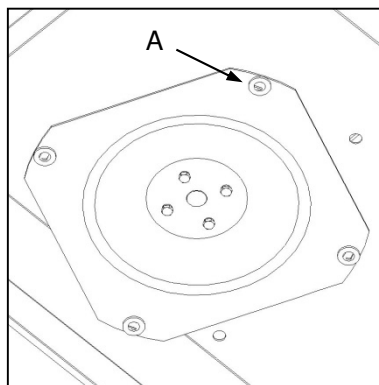

Fig. 8
- ✓ Check blade mounting holes (Fig. 8-A) for signs of wear, elongation or fractures. In the event of any observed defect do NOT attempt a repair, but immediately replace the defective disc.
- ✓ Gaan lemmonteringsgate (Fig. 8-A) na vir tekens van slytasie, rekking of breuke. Indien enige defek opgemerk word, moet NIE probeer om dit herstel nie, maar vervang die defekte skyf onmiddellik.